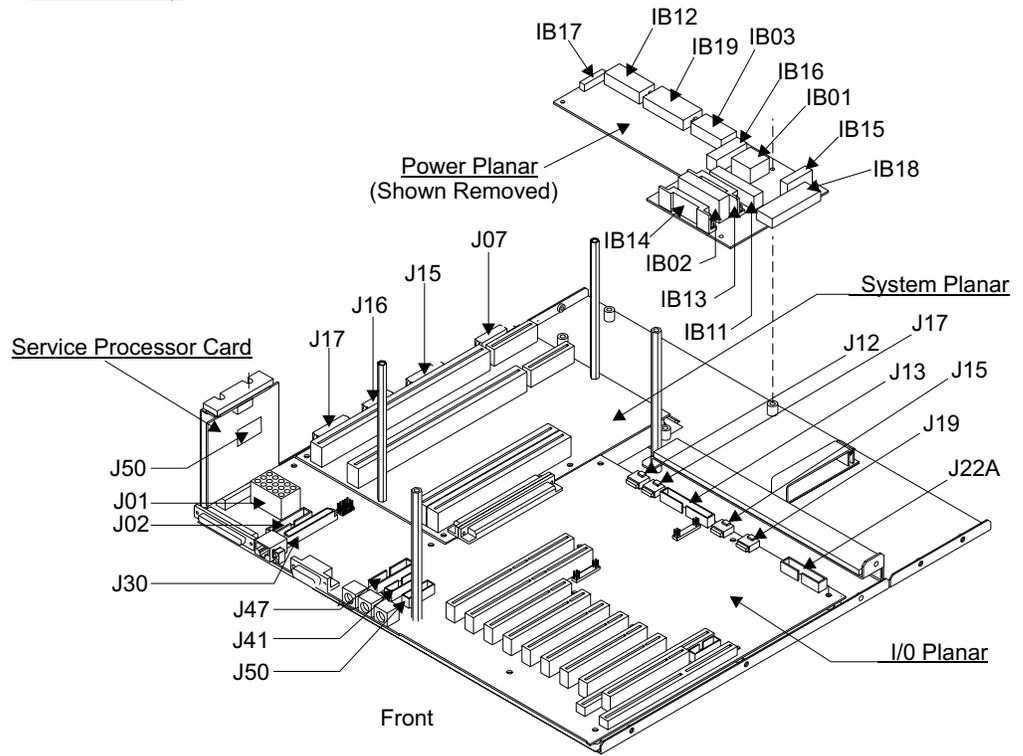

Figure 208. Cluster Bay Planar Connector Locations (S008649p)
- Cluster Bay Planar Connector Locations, Figure 208 on page 199